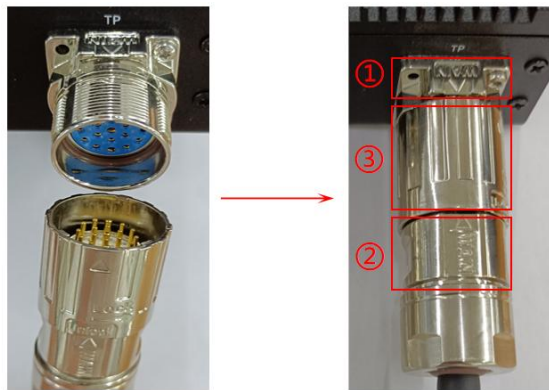

Figure 74 Diagram of cable connection for the teaching device
As shown in Figure 74, align the arrow ② on the connector of the teaching device with the arrow ① on the connector at the [TP interface] on the control cabinet. After pressing it down into place, rotate ③ clockwise by 90° (in the locked state).